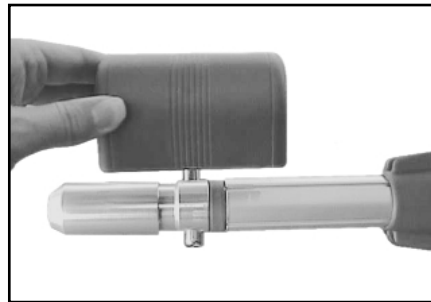

Figure 7
1. Remove the round blue caps from the top of each post by pulling them away from the post (Figure 7).
2. Remove the round blue cap from the ends of the rail by pulling them away from the post (Figure 7).